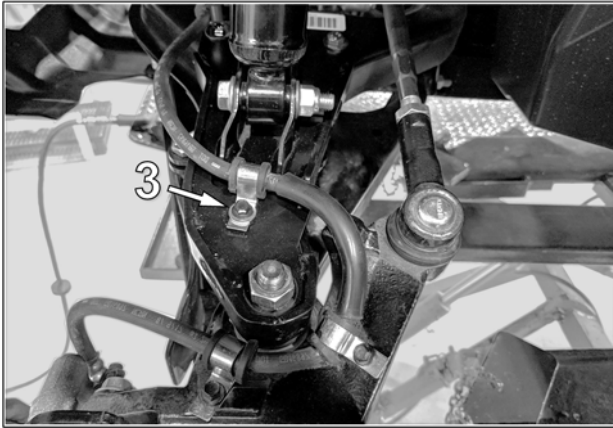

Fig. 23
11. Flip brake hose clamp around 180° and re-install hose clamp bolt (3). See Fig. 23.